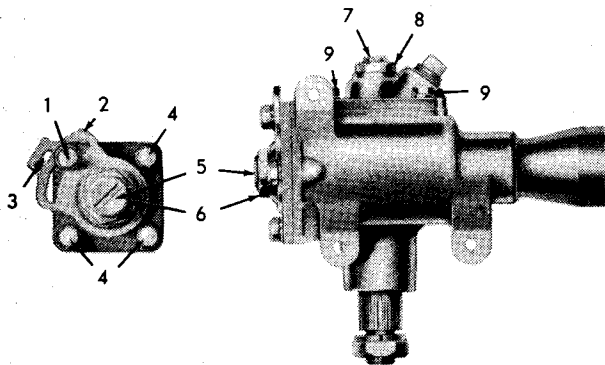

FIG. 9
2. To adjust the cross shaft end play, first tighten the side cover screws (9, Fig. 9).